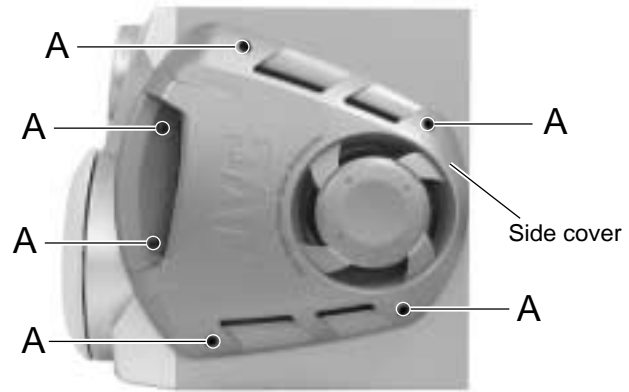

Fig.1
### ■ Removing the playback, recording and eraser heads (See Fig.1~3)
1. While shifting the trigger arms seen on the right side of the head mount in the arrow direction, turn the flywheel R in counterclockwise direction until the head mount has gone out with a click (See Fig. 1).
### ■ Removing the side cover (See Fig.1)